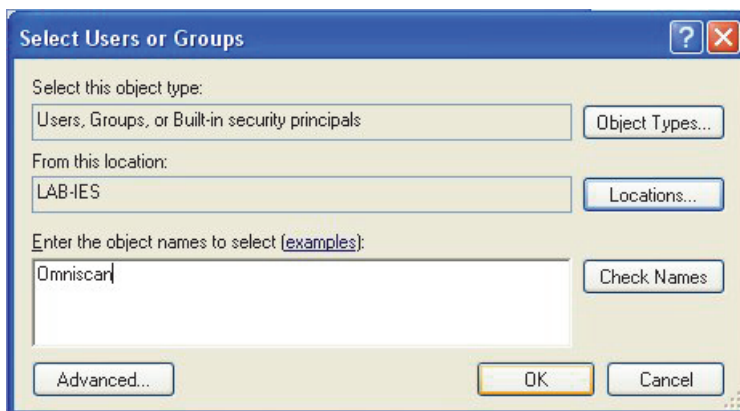

Figure 7-16 The Select Users or Groups dialog box (Windows XP)
8. In the **Select Users or Groups** dialog box, click the **Locations** button (see Figure 7-16 on page 206).
10. Back in the **Select Users or Groups** dialog box, type **Omniscan** (see Figure 7-16 on page 206) in the **Enter the object names to select** text box, and then click **OK**.
13. In the **Select Users or Groups** dialog box, click the **Locations** button (see Figure 7-16 on page 206).
15. Back in the **Select Users or Groups** dialog box, type **Omniscan** (see Figure 7-16 on page 206) in the **Enter the object names to select** text box, and then click **OK**.